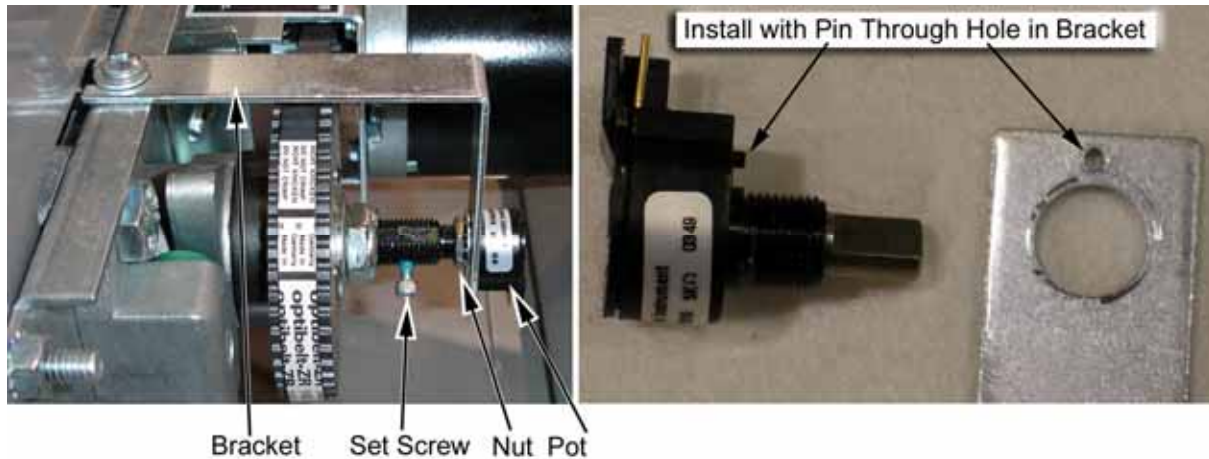
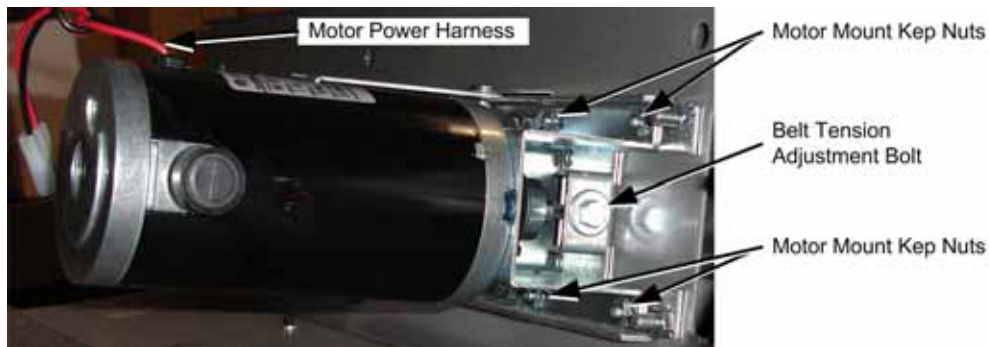

Figure 4. Replacing the 5 K Ω Steering Pot
Figure 5. Servicing the Steering motor
To replace a pot, refer to Figure 4 and perform the following steps:
3. Reverse these steps to install the new pot. Install the pot with the plastic pin through the small hole in the bracket, as shown in Figure 4 below. Make sure the set screw is against the flat part of the shaft. Tighten the set screw firmly with an Allen wrench and secure with blue Loctite[®].
Refer to Figure 4 above, and Figure 5 below, and perform the following steps to remove the force-feedback belt for repair. Always replace the belt if it looks cracked or worn.
1. Using a 7/64 Allen wrench, loosen the set screw from the steering column and remove the bracket with the pot attached (see Figure 4).
2. Using a 10mm socket wrench, loosen the belt tension adjustment bolt several turns until you can slip the belt off of the motor and steering gears (see Figure 5).
3. Loosen the four (4) 3/8" motor mount Kep nuts that secure the steering motor to the frame (see Figure 5).
4. To replace the motor, remove the four (4) 3/8" Kep nuts that you loosened in step 2, and remove the motor.